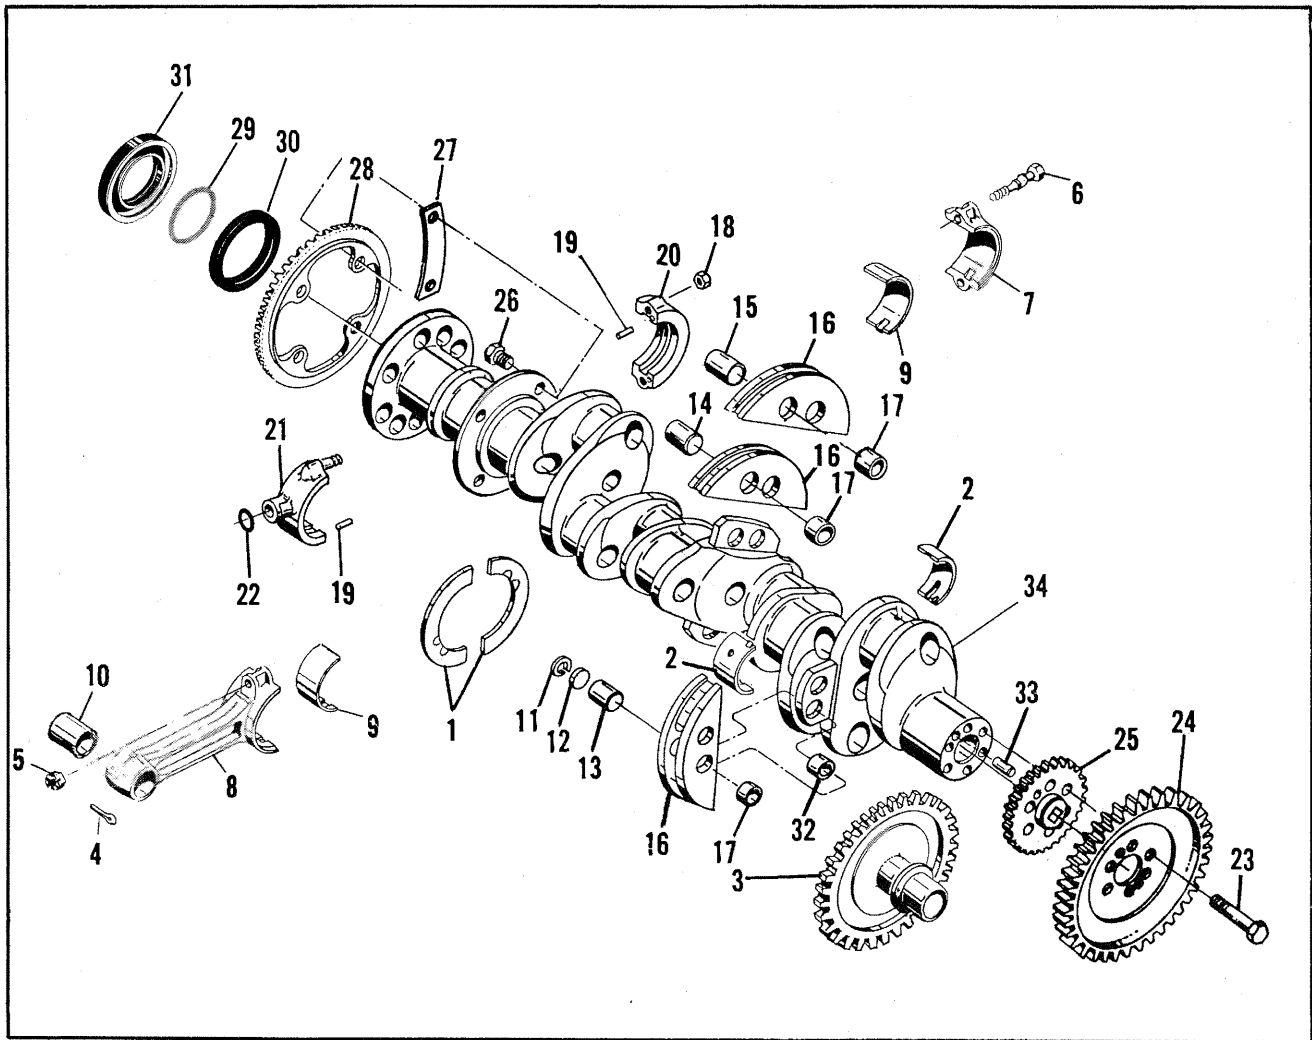
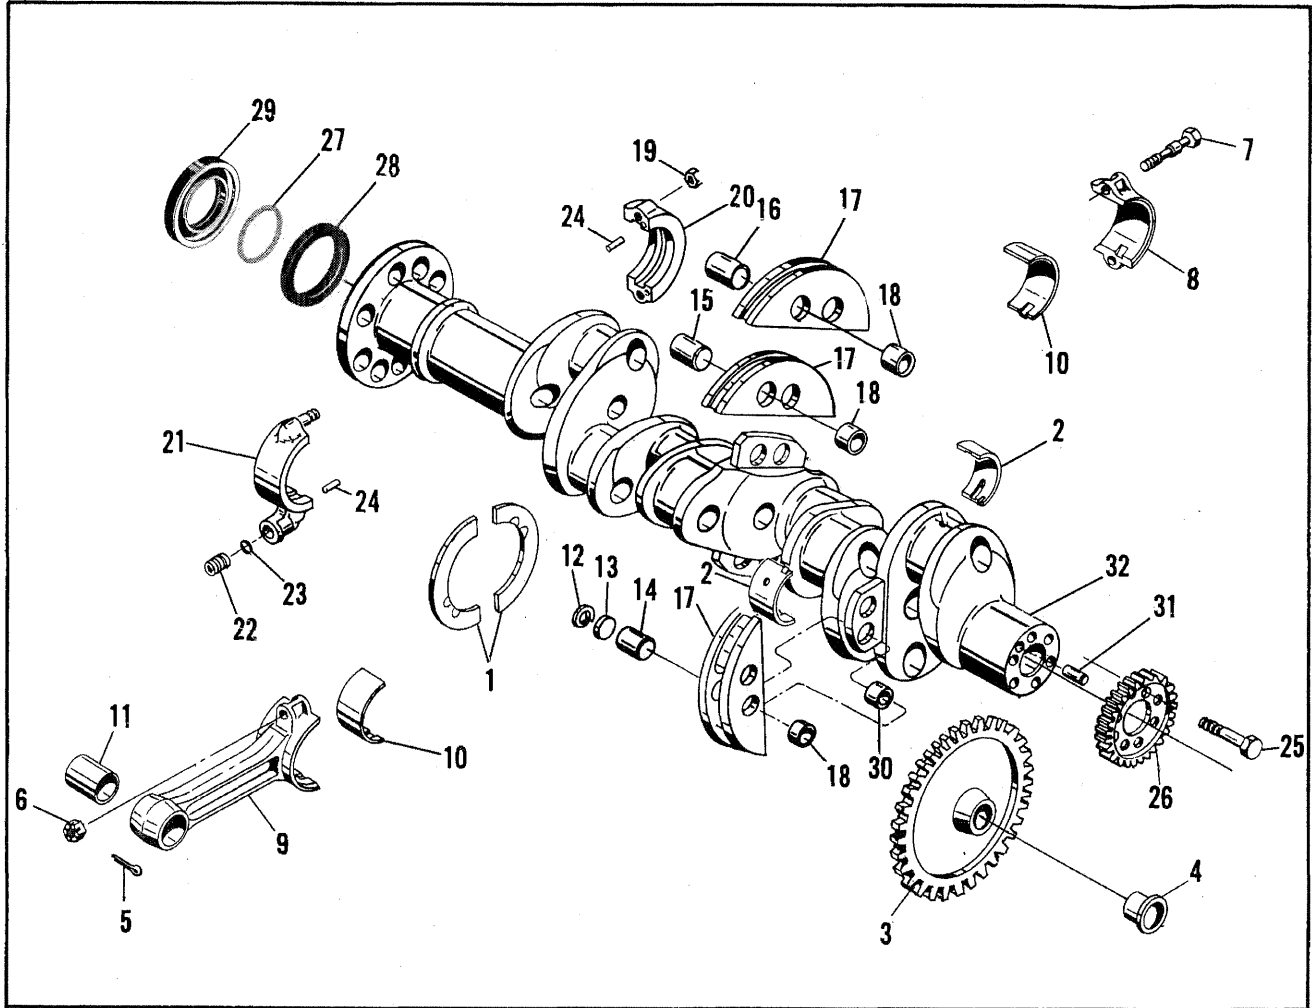

FIGURE 4-27. CRANKSHAFT ASSEMBLY, PERMOLD ENGINE.
FIGURE 4-28. CRANKSHAFT ASSEMBLY, SANDCAST ENGINE.
**4-35. CRANKSHAFT ASSEMBLY, PERMOLD ENGINE (See Figure 4-27).**
- b. Remove cotter pin (4), castellated nuts (5), bolts (6) and separate connecting rod caps (7) and rods (8). Remove bearing inserts (9). Loosely reassemble rods, caps, bolts and nuts with their position numbers matched.
- c. Remove retaining ring (11), plate (12) and pins (13,14,15). Lift counterweight assemblies (16,17) from crankshaft (34).
- d. Remove nuts (18) and separate governor oil transfer (19 through 22) from crankshaft.
- e. Cut lockwire. Remove six screws (23) and cluster gears (24,25). Remove four screws (26), lockplate (27) and alternator drive gear (28).
- f. Twist and remove split reinforcing ring (30) from oil seal (31). Work oil seal spring (29) from groove and detach from seal. Twist and remove oil seal from crankshaft.
**4-36. CRANKSHAFT ASSEMBLY, SANDCAST ENGINE (See Figure 4-28).**
- b. Remove cotter pin (5), castellated nuts (6), bolts (7) and separate connecting rod caps (8) and rods (9). Remove bearing inserts (10). Loosely reassemble rods, caps, bolts and nuts with their position numbers matched.
- c. Remove retaining rings (12), retaining plates (13) and pins (14,15,16). Remove counterweight assemblies (17,18).
- d. Remove nuts (19) and lift off governor oil transfer collar (20 through 24).
- e. Cut lockwire. Remove six screws (25) and pull gear (26) from crankshaft.
- f. Twist and remove split reinforcing ring (28) from oil seal (29). Work oil seal spring (27) from groove and detach from seal. Twist and remove oil seal from crankshaft.